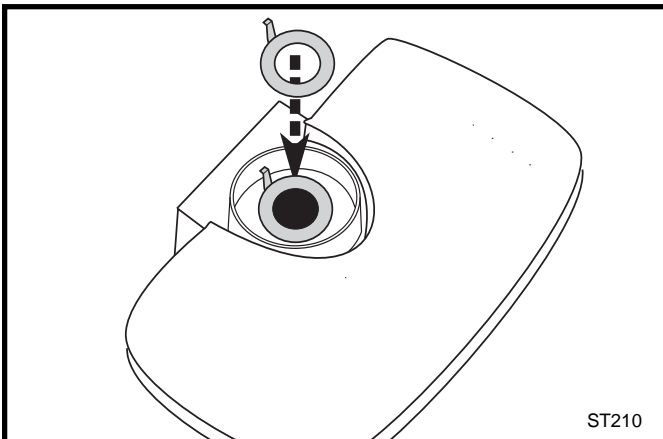

Fig. 22 Install the restrictor plate only if required for the venting configuration. Refer to page 8.
- 1. Install the Restrictor Plate.** Consult the 'Vent Run Specifications' on page 8 to determine whether the restrictor plate is needed. If so, put the restrictor plate in place within the inner flue collar as shown in Figure 22.
1. **Install the Restrictor Plate.** Consult the 'Vent Run Specifications' on page 8 to determine whether the restrictor plate is needed. If so, put the restrictor plate in place within the inner flue collar. (Fig. 22)